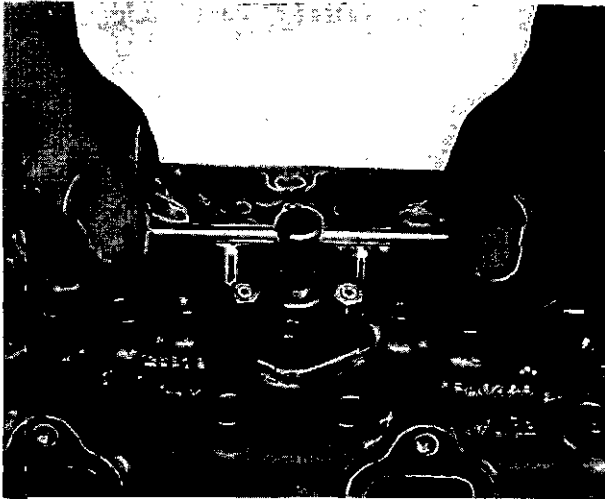

Fig. 13 Pressing in the new sleeve
3. Clean out the bore and groove in the cylinder head. Insert the service sleeve OE 42770 and press it in by hand as far as possible. Locate tool GA.306 in the sleeve bore and also on the injector studs, securing it by the two nuts. Tighten the centre screw of the tool to press the sleeve fully home (fig. 13). The top of the sleeve will then be slightly below the cylinder head face.